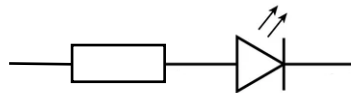

Figure 5
20. The supply voltage of the circuit shown in Figure 5 is 4.5 V. The voltage drop across the LED is 1.2 V while the optimal forward current is 20 mA.